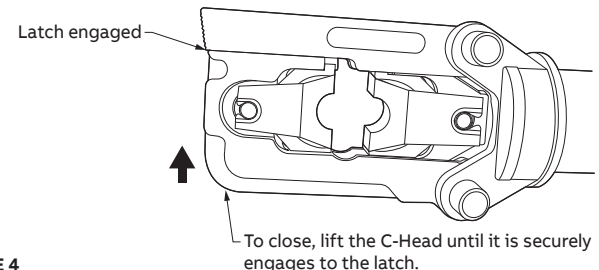

FIGURE 4
6. Close by lifting the C-Head until it is securely engaged to the Latch (Figure 4).